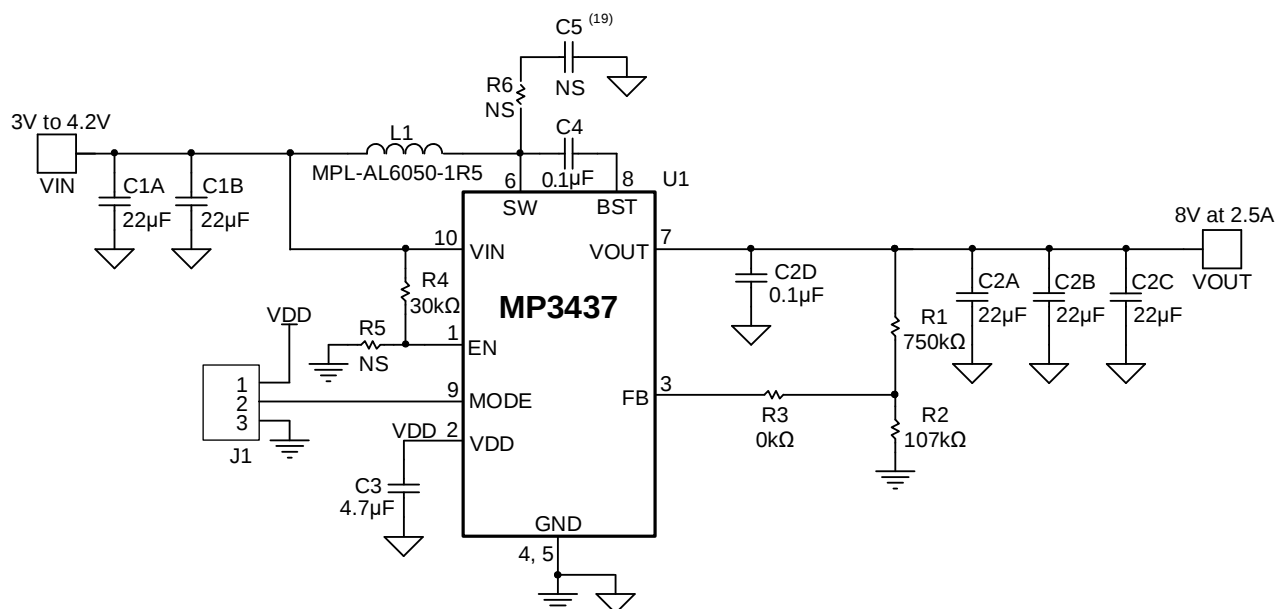

Figure 5: QFN Package Typical Application Circuit
Figure 5 and Figure 6 show the detailed application schematics. For the typical performance and circuit waveforms, see the Typical Performance Characteristics section on page 10. For more device applications, refer to the related evaluation board datasheet.
- ¹⁸⁾ The recommended PCB layout is based on the typical application circuits (see Figure 5 and Figure 6 on page 23).